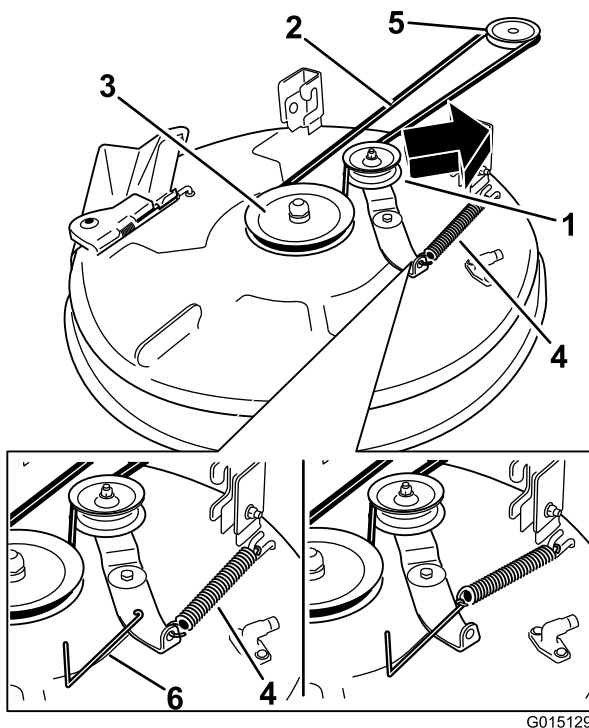
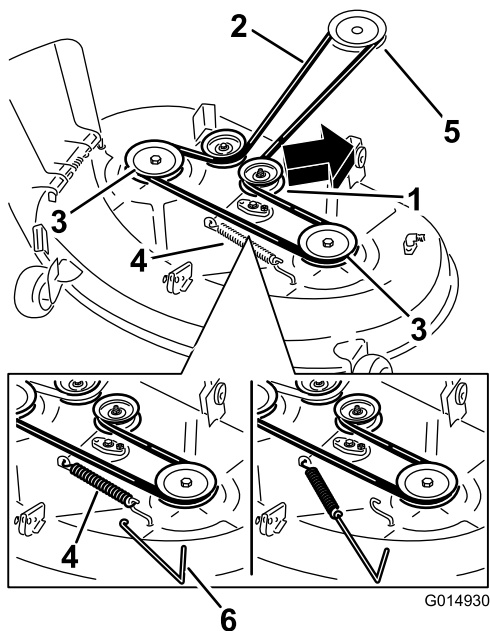

Figure 68
Figure 69
5. Using a spring-removal tool (Toro part no. 92-5771), remove the idler spring from the deck hook to remove tension on the idler pulley, and roll the belt off of the pulleys (Figure 68 and Figure 69).
6. Route the new belt around the engine pulley and mower pulleys (Figure 68 and Figure 69).
7. Using a spring removal tool (Toro part no. 92-5771), install the idler spring over the deck hook and place tension on the idler pulley and the mower belt (Figure 68 and Figure 69).